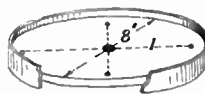

Fig. 4—The top
Now lay the work so far finished aside, and proceed with the revolving top (I) and its cone. Cut a circle of wood 8 ins. in diameter, with a $\frac{1}{2}$ in. hole in its centre as Fig. 4, and round its edge glue a strip of stout card to form a
Next, draw on one side surface of the top the two dotted lines shown in Fig. 4, these being, of course, at right angles to each other. At a distance of